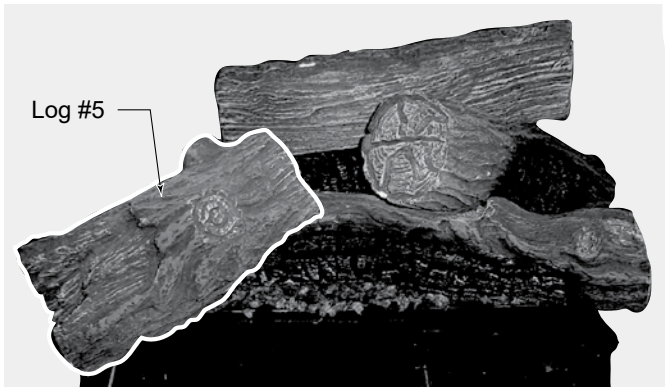

Figure 6.8 - Log #5 Placement
6. Place log #5 by matching the rectangular notch on the bottom of the log with the rectangular protrusion on log #2. Set the notch on the bottom of this log over the very far left tong on the grate. Figure 6.8.